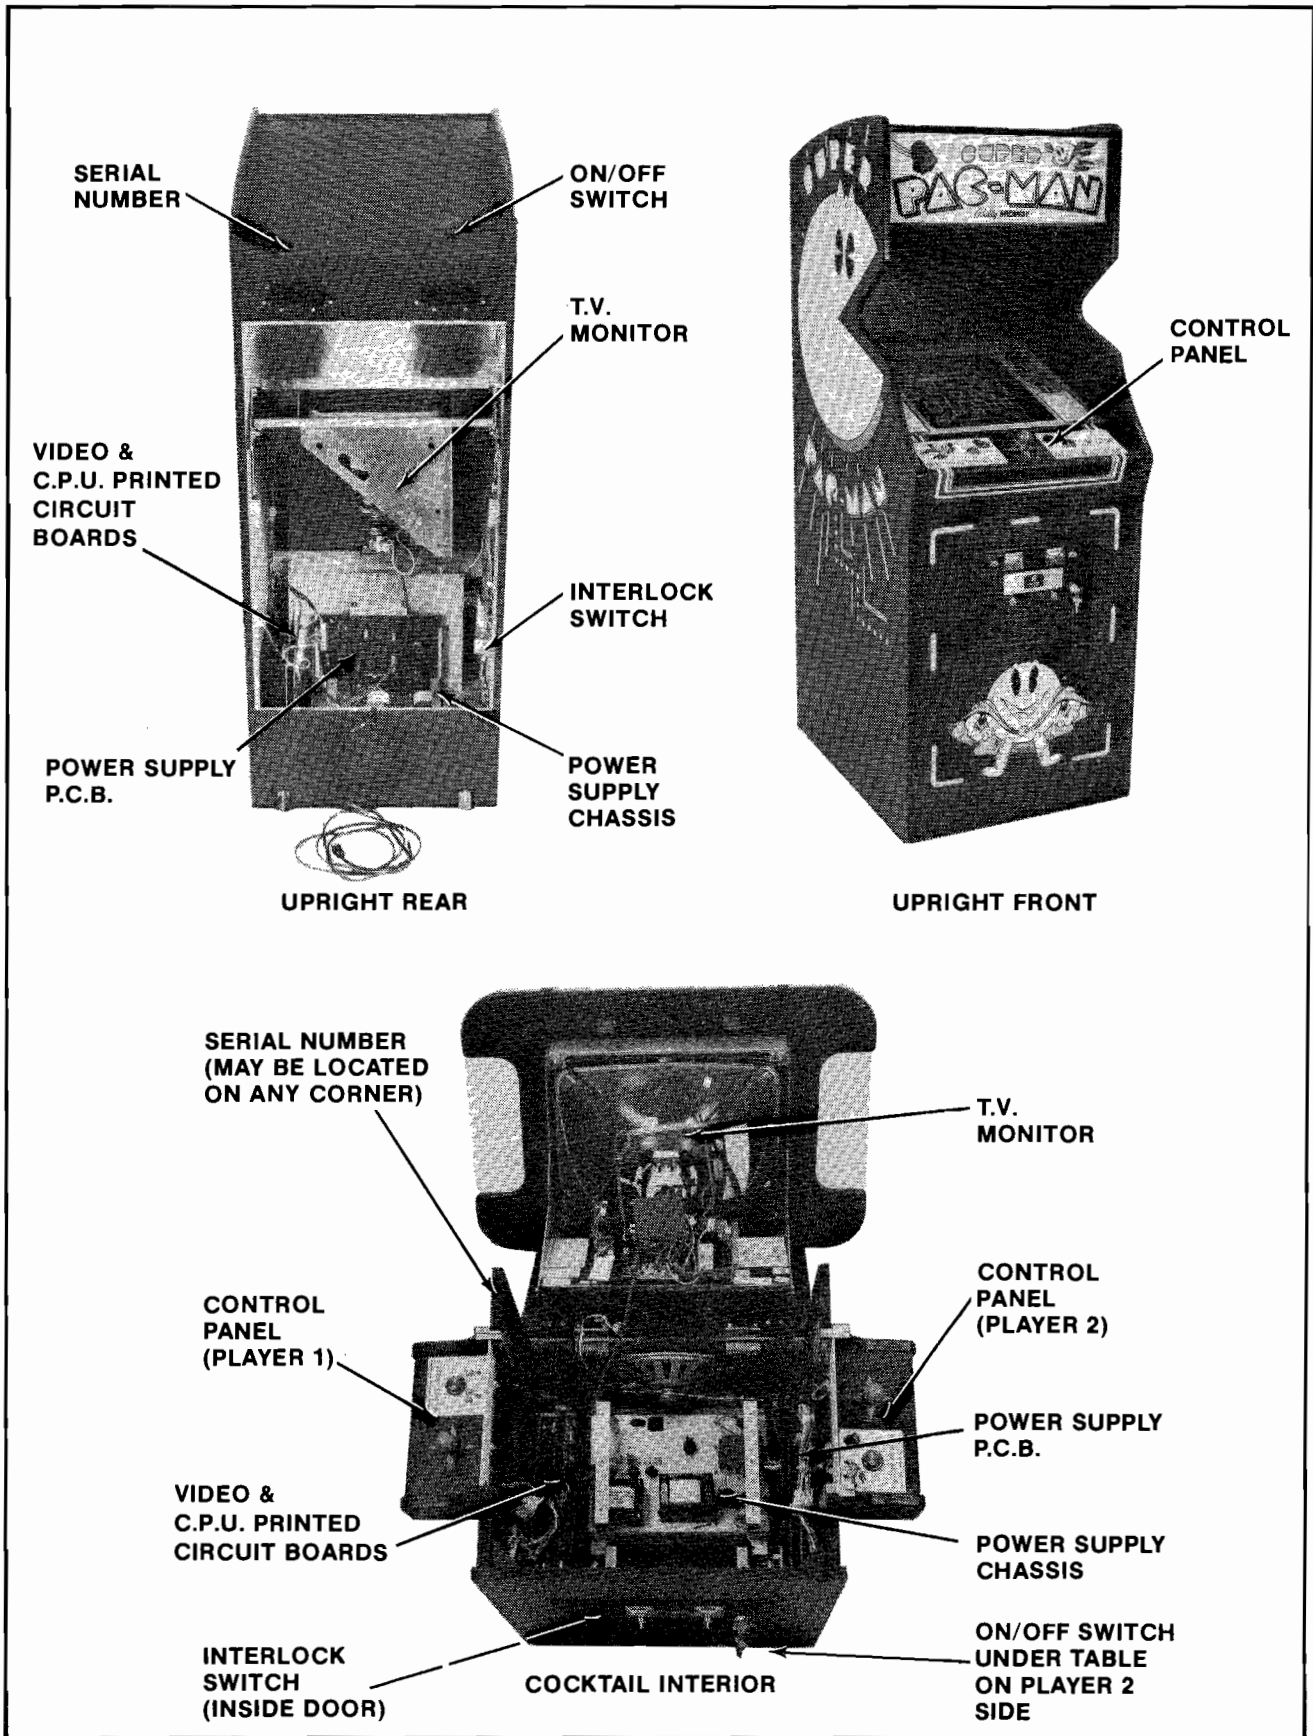

Figure 2-1 Location of Serial No., Interlock Switch, On/Off Switch, & Major Sub-Assemblies
5. Open the cabinet and inspect the inside of the game for any signs of damage. See Figure 2-1.
- Note the location of the game's serial number. See Figure 2-1.
- Check all major subassemblies to be sure they are mounted securely. These are called out in Figure 2-1.
### 3. Interlock and power ON/OFF switches: See Figure 2-1.
- Check each interlock switch for proper operation. After checking the line voltage in your area and determining that the input wires to the main power supply transformer of your game are connected properly — or — after obtaining a solution to your over or under voltage problem from your distributor and/or your service man, plug the game into your A.C. wall outlet. The game ON/OFF switches for both models are located as shown in Figure 2-1. Turn the game on and allow it to warm up a few minutes.